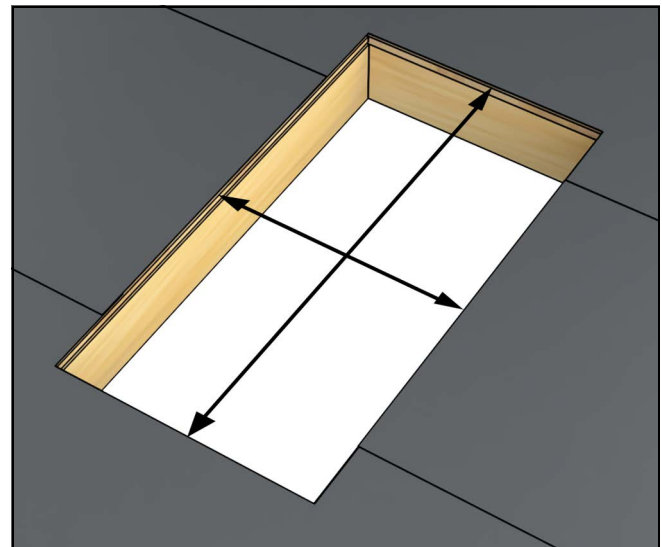

Figure 4
2. Cut rough opening according to the measurements in the chart. See Figure 4.